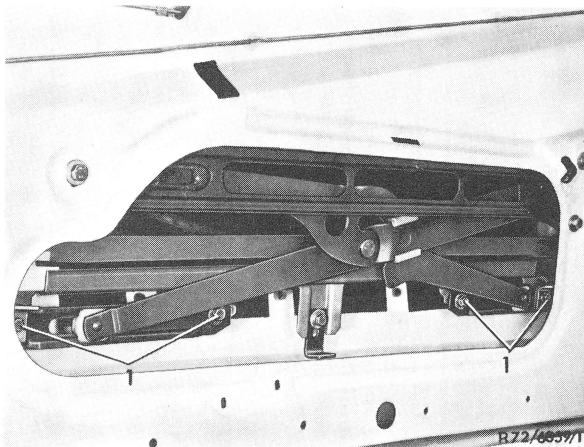

Fig. 1
- 4 Loosen crank-operated window from window opener on screws (1) (Fig. 1).